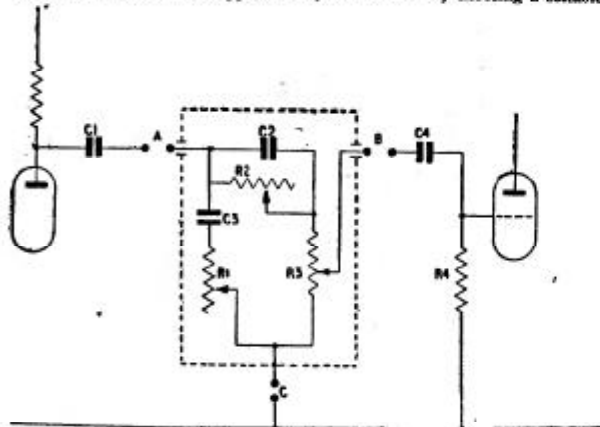

FIG. 10.—A Remote Tone Control and Volume Control Unit.
The simplest method of attenuating frequencies is to bypass a percentage of the chosen frequencies to earth, as in the combination C3-R1 of Fig. 10, or to pass them through a filter as in the combination C2-R2 of Fig. 10.
In Fig. 10 the combination C3-R1 is the treble attenuator, bypassing a proportion of the higher frequencies to earth, whilst the combination C2-R2 is the bass attenuator. C2 is kept fairly small in capacitance, so that whilst R2 impedance to the higher frequencies is not great the impedance rises quickly as the frequency falls. The capacitance therefore blocks the passage of lower or bass frequencies, which are allowed to pass to the volume control through R2. As the resistance of R2 is increased, therefore, a smaller proportion of these lower frequencies is passed to the following circuits.
**Components List for the Remote Tone and Volume Control Unit, Fig. 10.**